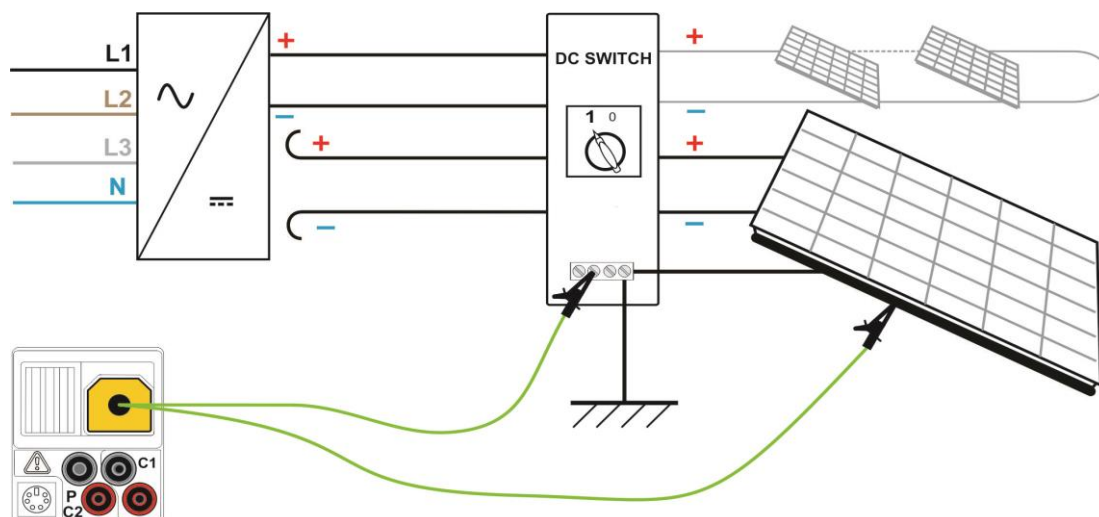

Figure 5.6: Connection for RLOW Ω test
- ❑ **Connect** the test leads to the appropriate PE wiring (see Figure 5.6).